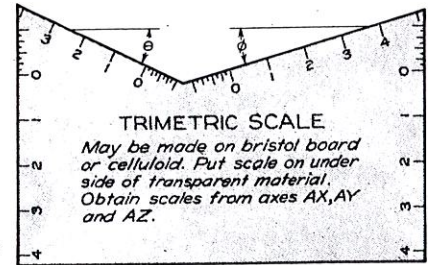

FIG. 5
- 10 Draw trimetric scale (fig. 5).
A British concern makes a trimetric scale somewhat similar to fig. 5 which contains scales for three combinations of  $\theta$  and  $\phi$ .